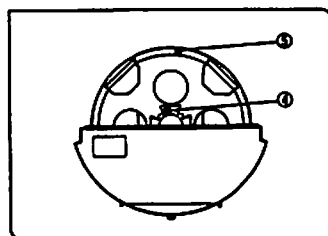

Fig. 4
2. Hold the cube to be mounted with its index side facing upward and slide it all the way onto the dovetail mount. Next, be sure to tighten the cube clamping screw (1) immediately. (Tighten all four cube clamping screws.)
3. Remove the cube's magnetic index sticker (2)* and affix it to the corresponding turret position. (Fig. 4)